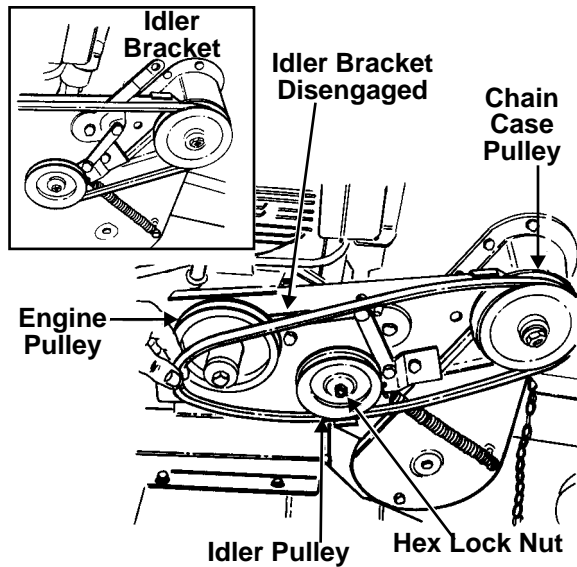

Figure 18
4. Move the idler bracket forward (disengaged position) to remove the belt tension. Lift the belt off the engine pulley and chain case pulley. See Figure 18.